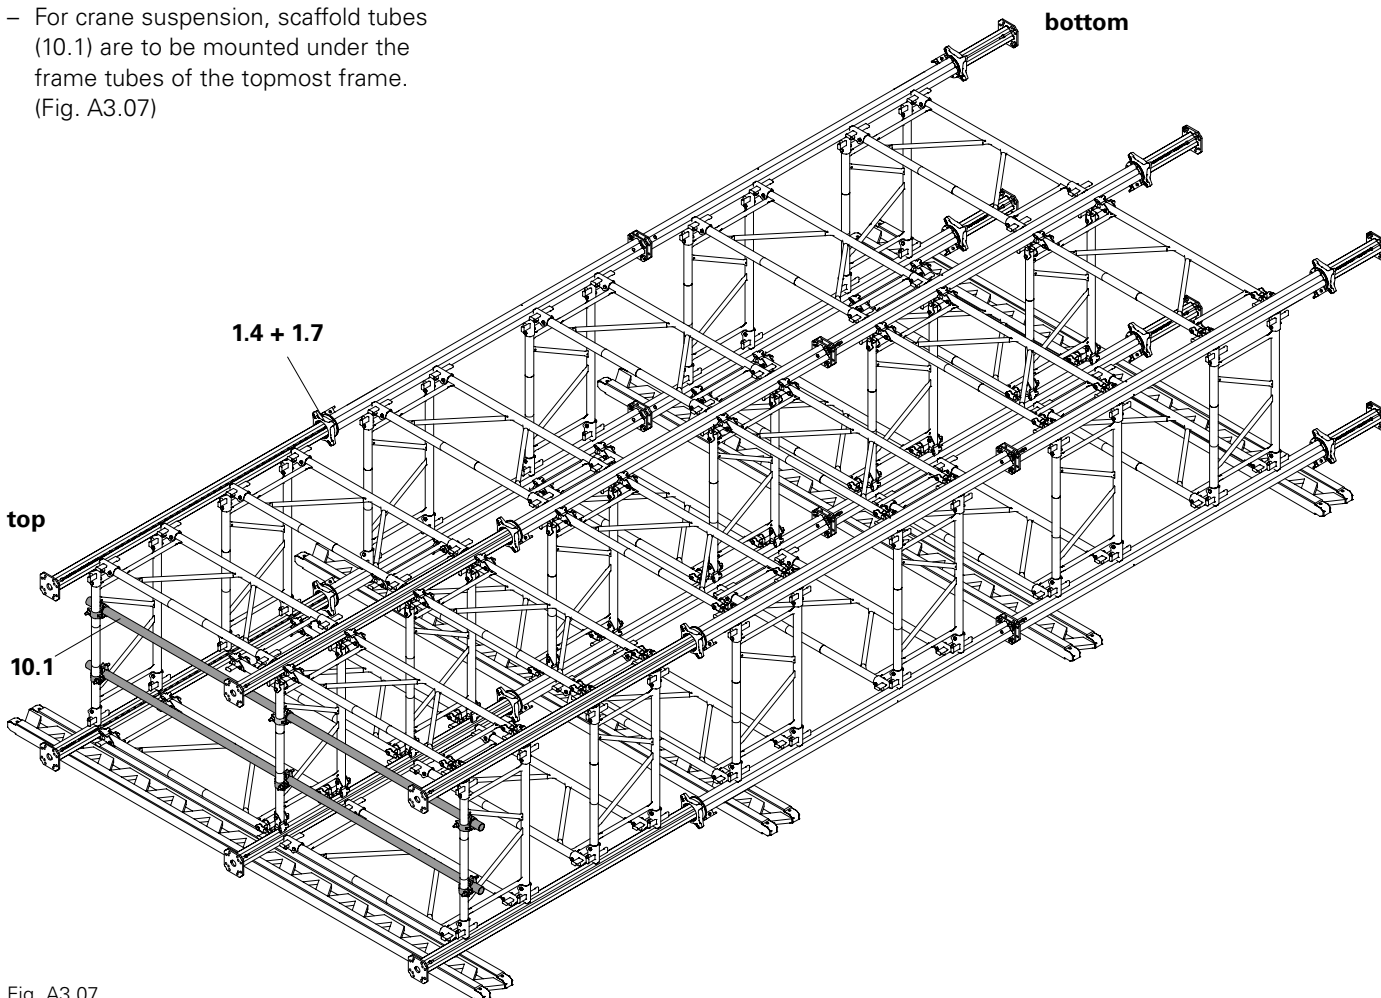

Fig. A3.07
- For crane suspension, scaffold tubes (10.1) are to be mounted under the frame tubes of the topmost frame. (Fig. A3.07)